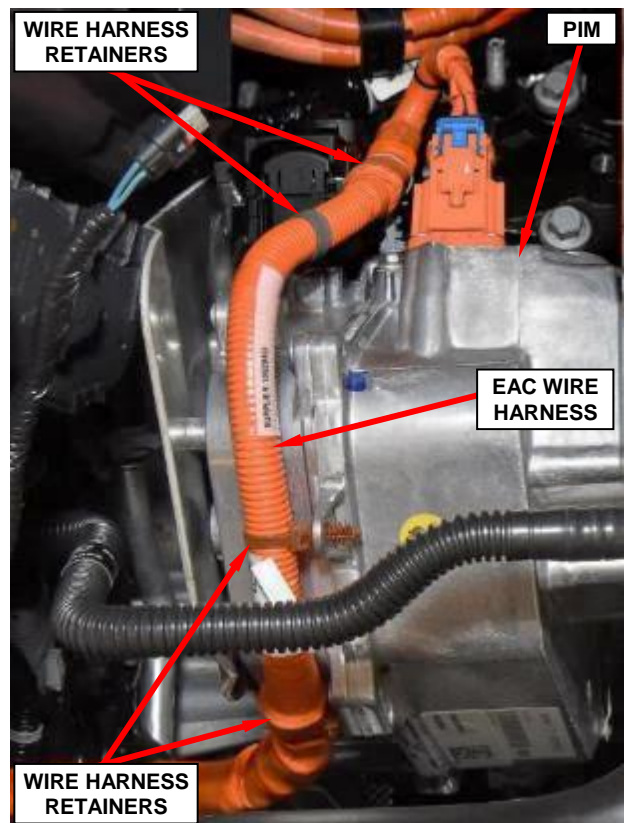

Figure 25 – EAC Wire Harness Retainers
48. Disengage the four wire harness retainers securing the Electric Air Compressor (EAC) wire harness to the PIM (Figure 25).
16. Position the wire harness and engage the four EAC wire harness retainers to the PIM (Figure 25).